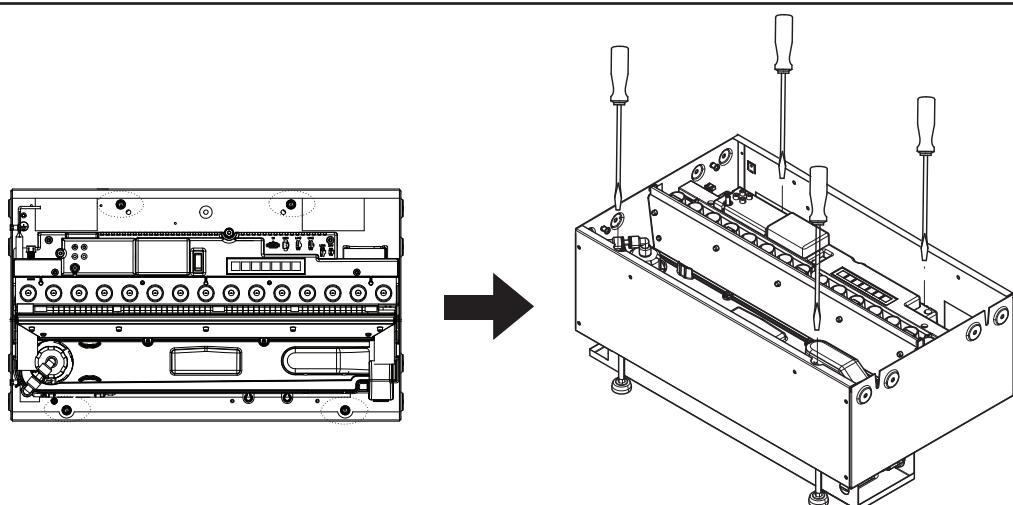

Fig.5
2. Ensure the product is at the correct height to suit the installation and ensure it is adequately level. This can be done by adjusting the adjustable feet with a flat head screwdriver. (Fig 5) The levelness of the product can be verified by checking the on-board spirit level which is located on the metal base towards the back of the fire (Fig 6).